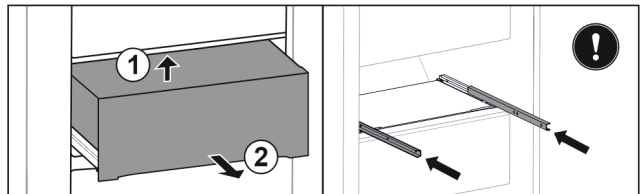

Fig. 111
- ▶ Lift drawer from below. Fig. 111 (1)
- ▶ Remove drawer to the front. Fig. 111 (2)